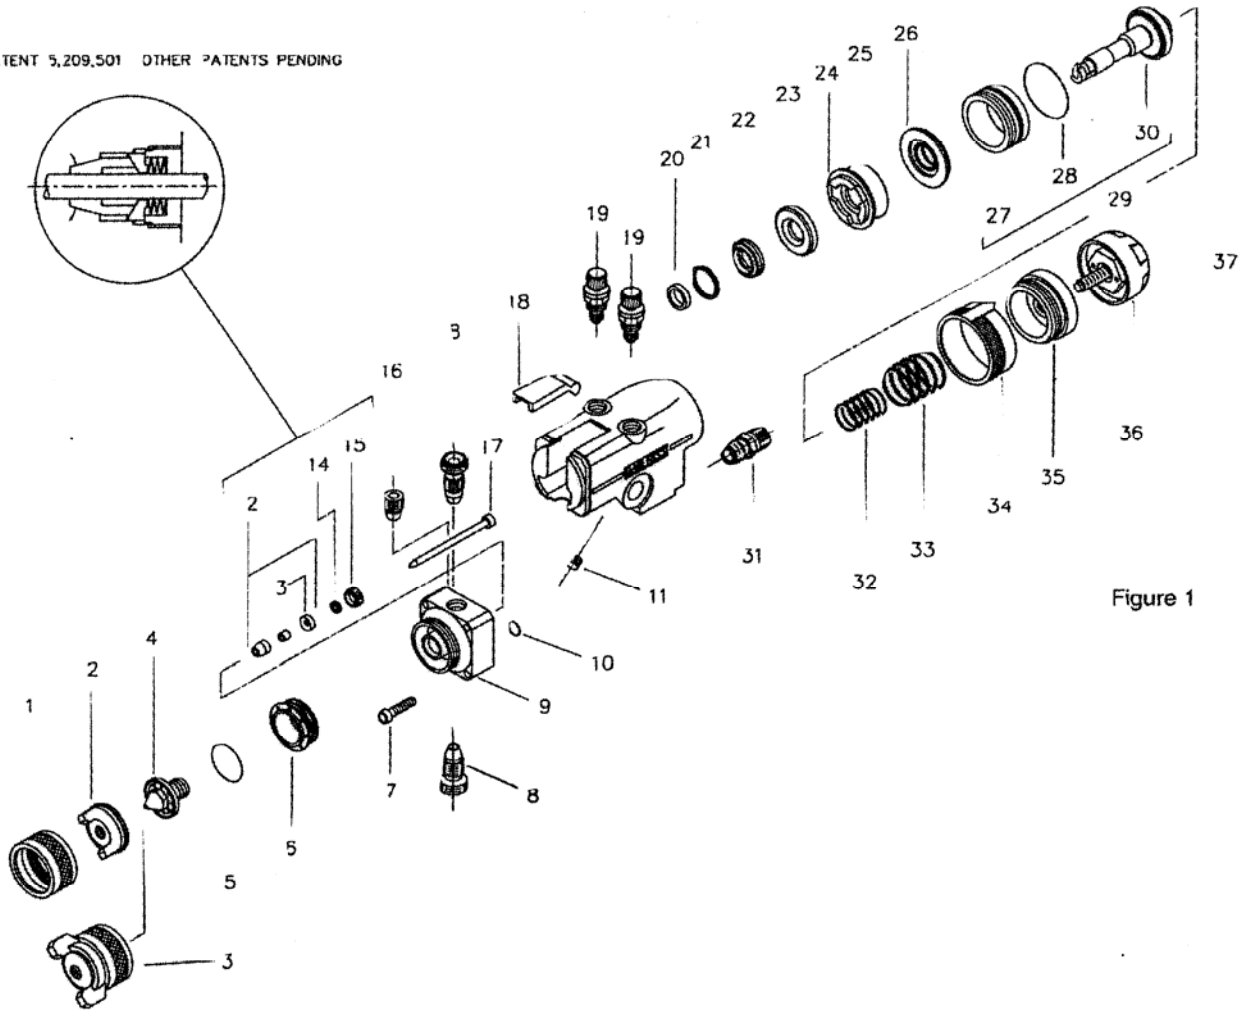

Figure 1
See figures 1 and 2 : Mount gun using the 12.7mm (1/2") diameter hole 'X' and secure with screw. An additional 10mm diameter x 12.5mm deep dowel hole 'Y' has been provided to enable users to center the spray gun with mounting fixtures of their own design.
NOTE: Order numbers shown in parts list for figure 1 with suffix “-K5” etc. at the end of the number indicates a kit of parts. Example: Ref 5. AGG-89-K5 is a kit of five gaskets.
TO REMOVE SPRAY HEAD ASSEMBLY See Figure 1. Disconnect material hose(s). Unscrew the retaining ring and remove the air cap
- 4.2. Remove retaining screw (15) using a hexagon key, remove disc springs (14), packing piece (13) and needle packing set (12). Refer to enlarged view on Figure 1.
TO DISMANTLE GUN BODY, See Figure 1.